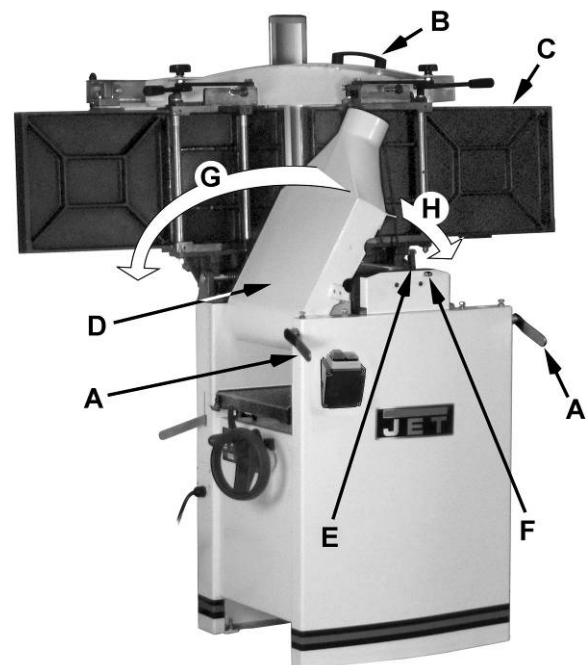

Figure 3
When raised, the table should be in the vertical position as shown in C, Fig. 3. The *latch* (E, Fig. 3) should be engaged, preventing the table from an accidental forward fall.
3. Position the *dust chute* (D,H Fig. 3) to the right. Use extreme care to avoid contact with cutterhead knives.
Refer to Figure 3: